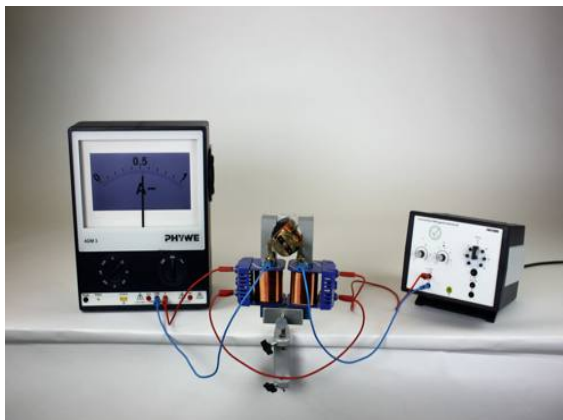
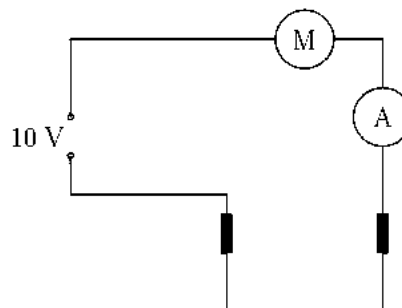

Fig. 3
Fig. 4
- Complete the setup according to Fig. 3 and Fig. 4:
If an electromagnet is used to operate an electromotor, it must create a large enough magnetic field near by the armature. This is why a U-shaped iron core with two field coils is used, where the armature runs between its poles. Armature coils and field coils are connected in series for a series-wound motor (Fig. 4).